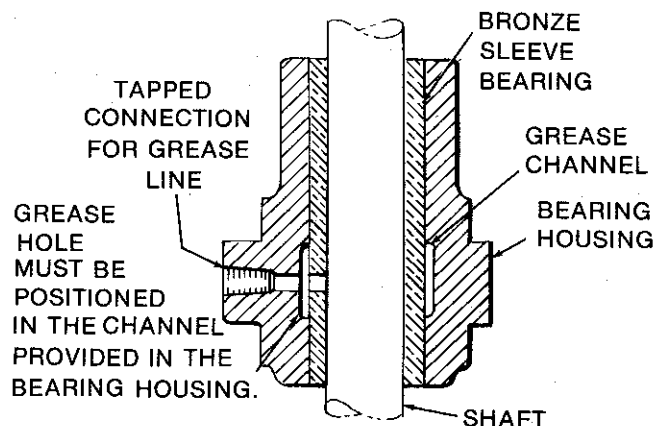

Figure 8. Installation of Sleeve Bearing for Types LB3A, LB4A and LH2A
- For LB3A, LB4A and LH2A sump pumps, align grease hole visually, or blow air through grease line opening in bearing housing to insure that grease lubrication hole in bearing is positioned within the channel of the bearing housing (see figure 8).